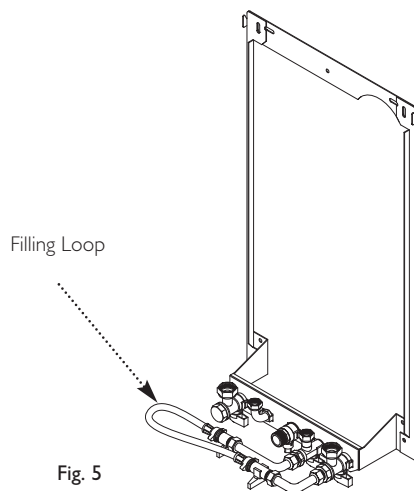

Fig. 5
2. There are connection points on the mains cold water inlet and central heating return isolating taps (Fig. 5) to which the filling loop kit (Part No. 248221) supplied can be assembled. If the boiler is to be installed in an inaccessible location (e.g. loft space) the filling point should remain accessible. Also the fitting of an additional pressure gauge in a visible position is recommended. The kit supplied can still be used for this elsewhere on the system, or if necessary a more suitable proprietary kit can be fitted.